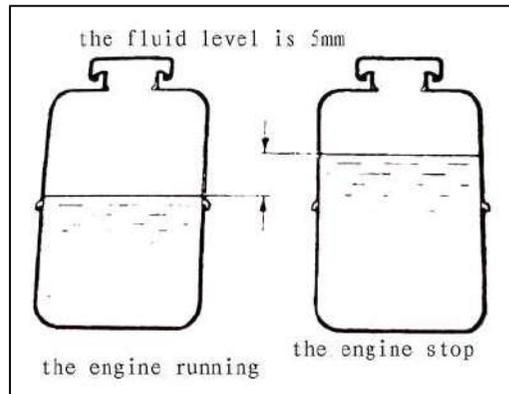

Fig.17-8
9.POWER STEERING SYSTEM BLEEDING(See fig 17-8)